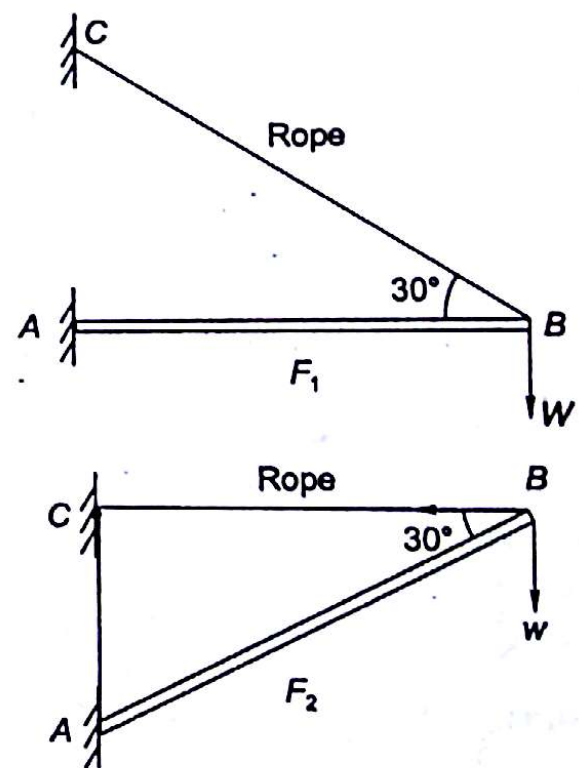

Fig. 4.46
- 4.17 A bar AB is held by a rope at the end of which load W is suspended. In two cases shown, forces F_1 and F_2 are developed as shown in Fig. 4.46. What is the ratio of F_1/F_2 ?